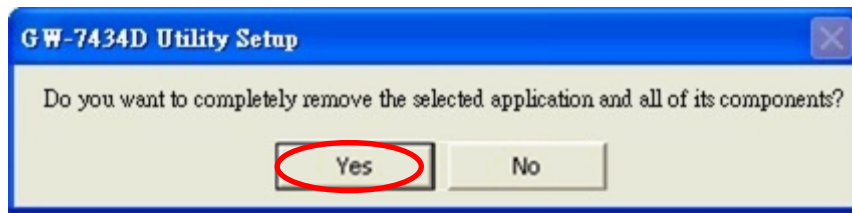

Figure 5-11: Click the button “Yes” to remove the software
**Step 5:** Click the button “Yes” to remove the software as shown in figure 5-11.